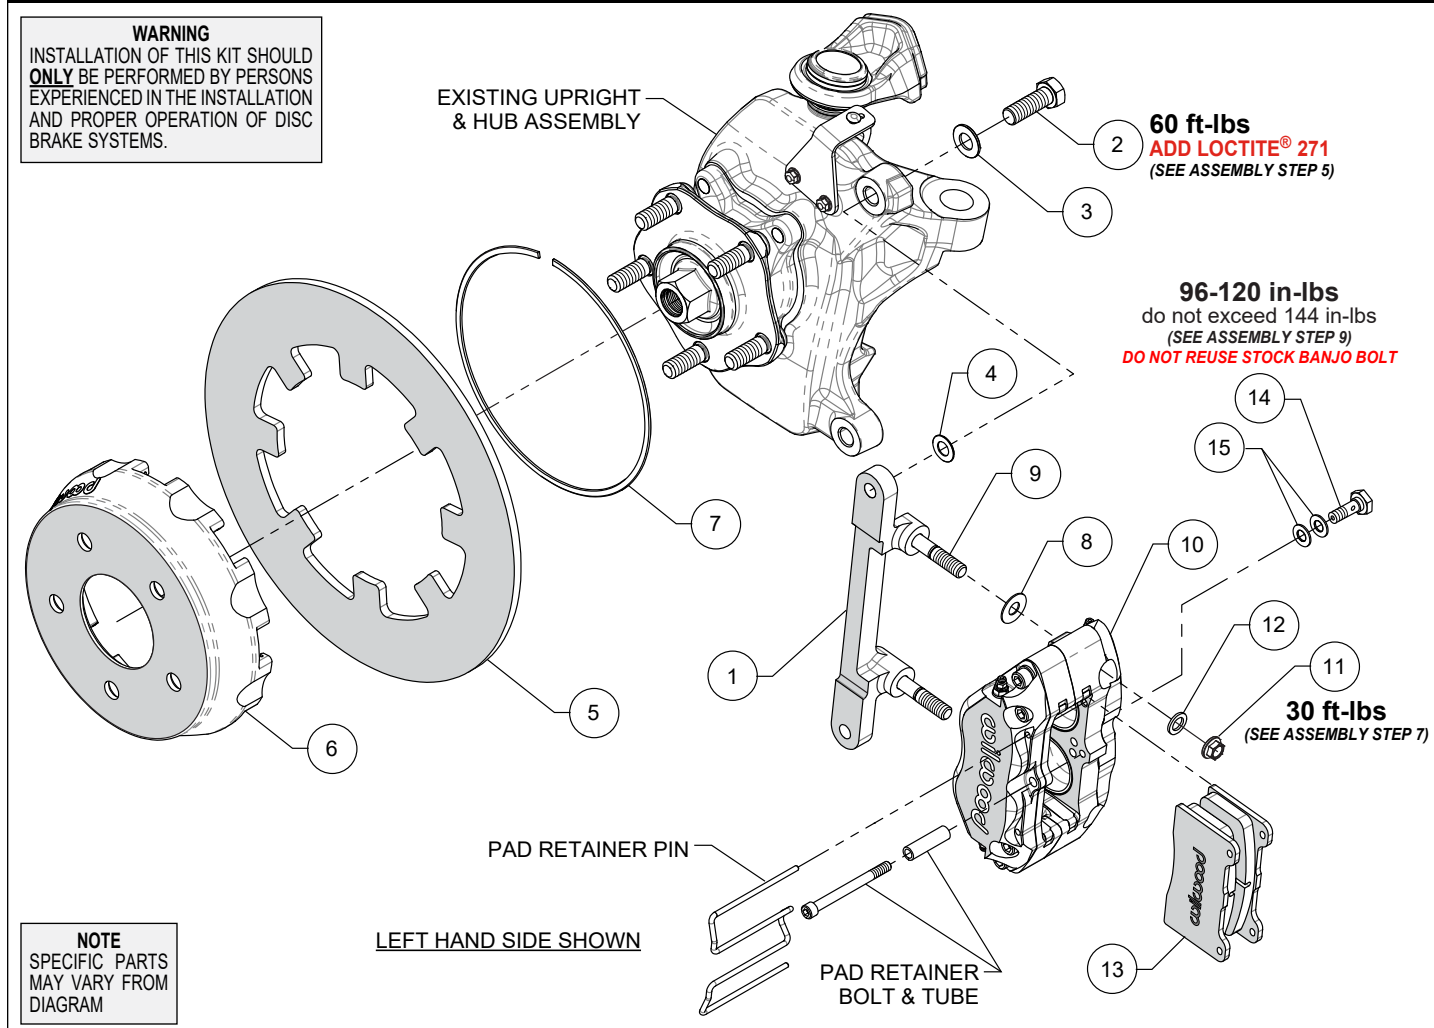

Figure 1. Typical Installation Configuration
NOTE: Numbers in parenthesis refer to the parts list and Figure 1 on the preceding pages.
STEP 1 The caliper mount bracket (1) should initially be installed with clean, dry threads on the mounting bolts. Orient the bracket, as shown in Figure 1 and Photo 1, and install using bolts (2) and washers (3). Initially place one .033" thick shim (4) on each bolt between the bracket and upright, Figure 1. Temporarily tighten the mounting bolts. **NOTE:** The bracket must fit squarely against the mount bosses on the upright. Inspect for interference from casting irregularities, machining ridges, burrs, etc. Later, after the caliper alignment has been checked, the mount bolts will be secured using red Loctite® 271.
STEP 2 Position the rotor (5) onto the hat (6), making sure the rotor lugs fit into the recesses of the hat, as shown in Photo 2.
STEP 3 Secure rotor to the hat using the snap ring (7) by installing the ring into the groove in the hat, as shown in Photos 3 and 4. Carefully inspect snap ring to ensure complete engagement in the groove.
STEP 5 Initially place one .035" thick shim (8) on each stud (9) between the caliper and the bracket (1), as shown in Figure 1 and Photo 6. Mount the caliper (10) onto the bracket (1) using lock nuts (11) and washers (12), Figure 1. Temporarily tighten the lock nuts. View the rotor through the top opening of the caliper. The rotor should be centered in the caliper, Photo 7. If not, adjust by adding or subtracting shims (4) between the bracket and the upright. Always use the same amount of shims on each of the two mounting bolts. Once the caliper alignment is correct, remove the bracket mounting bolts (2) one at a time, apply red Loctite® 271 to the threads, and torque to value shown in Figure 1.
STEP 6 Remove the pad retainer clip from the caliper (10). Insert the brake pads (13) into the caliper with the friction material facing the rotor, as shown in Photo 8.
STEP 7 Check that the top of the brake pad is flush with the outside diameter of the rotor, Photo 9. If not, adjust by adding or subtracting shims (8) between the caliper and the bracket. After the caliper pad height is set, torque the caliper lock nuts (11) to value shown in Figure 1. Reinstall the pad retainer bolt, tube, and clip, Photo 10.
STEP 9 Attach brake line to caliper. Connect OEM brakeline to caliper using banjo bolt (14) and crush washers (15). Do not use lubricant or thread sealant on banjo bolt (14). Torque to minimum value shown in Figure 1. Check for leakage, increasing torque only to stop leakage without exceeding maximum specification. Replace crush washers and banjo bolt whenever reassembly is required. **Ensure hoses are routed to prevent contact with moving suspension, brake or wheel components.**